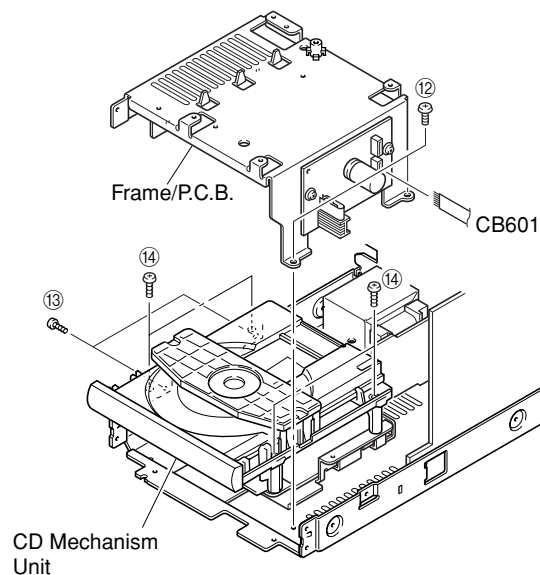

Fig. 4
- Disconnect the cable from the Connector (CB601) in Fig. 4.
- Remove 2 screws (⑫) and 2 screws (⑬) in Fig. 4. and then remove the Frame/P.C.B..
- Remove 4 screws (⑭) and then remove the CD Mechanism Unit in Fig. 4.